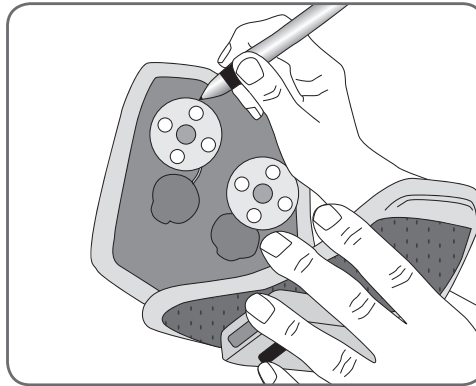

Figure 8-21: Marking the position of the L300 hydrogel electrode bases on the L300 FS Cuff liner.
2. Using the marking pen, mark the position of the L300 hydrogel electrode bases on the L300 FS Cuff liner. See Figure 8-21.